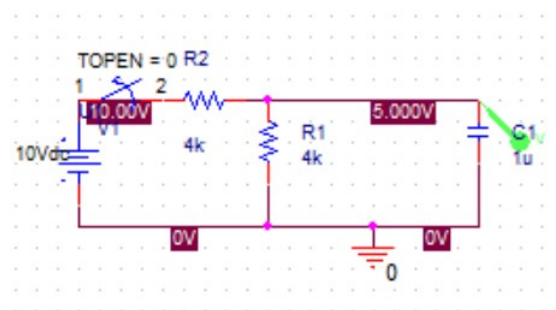

Figure 2: RC Circuit in PSPICE
15. Add a voltage marker by clicking , which is the voltage marker, and put it at the node as shown in Figure 2. Note that a voltage marker indicates the node voltage of the marked position with respect to the GND node. We want to observe the voltage across the capacitor with respect to time.
17. Run the simulation by clicking the “Run Pspice” tab. The simulation result will pop up, with the voltage as a function of time plot shown (Figure 2).
18. On the graph, draw a line at  $0.3678 \cdot v_C(0)$ . Then use the cursor command to locate the time constant. Record this value. To obtain the cursor, click on Trace->Cursor->point. Look in the trace box at the lower right hand corner for the corresponding value in time domain (X).
Use PSpice to obtain the transient response for the voltage across the capacitor for  $R=8.5\text{ k}\Omega$ ,  $R=4\text{ k}\Omega$ , and  $R=1\text{ k}\Omega$  in the circuit in Figure 2. In the Transient Analysis use a value of 50 ms.